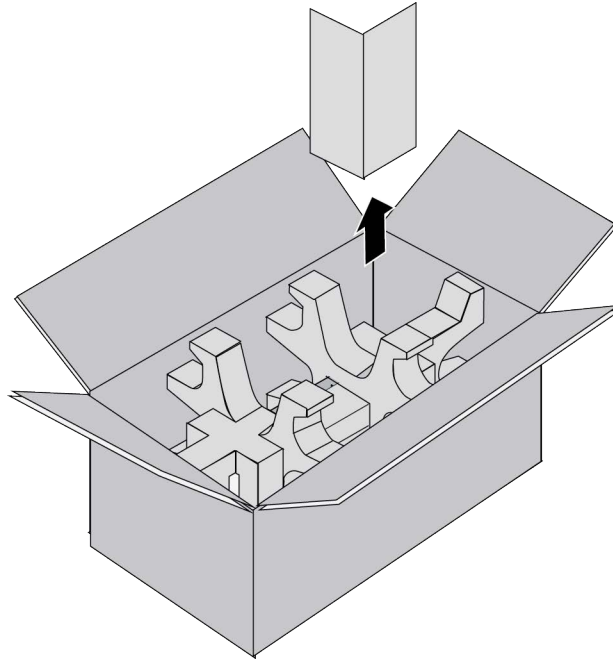

Figure 54. Removing the Partition from the Power Supply Shipping Box
2. Remove the partition from the shipping box. Refer to Figure 54 on page 124.